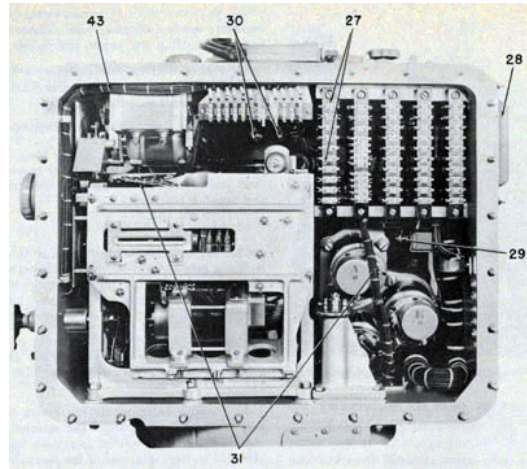

Figure 109-Removal of Wires and Terminals.
27. Remove wires R1F, R2F, V2, V1, U2A, S1F, S2F, S3F, V2, U2B from terminal block in back of director. See BuOrd Dwg 168050. See figure 109.
28. Remove wires W1, W2, V10, V20, M2C, M1C from fuse block terminal. Refer to BuOrd Dwg 168050. See figure 109.
29. Remove wire terminal Bi from resistor block 180849-3. Refer to BuOrd Dwg 168050. See figure 109.
30. Remove wiring terminal M1OL, M1OR, M1R, M1L from a capacitor 170186-7. See BuOrd Dwg 168050. See figure 109.
31. Cut all necessary ties to free these cables to the own ship course unit and the computer. Figure 109.
43. Follow bearing receiver tree to back of the director and disconnect wiring from the director terminal boards. Figure 109.